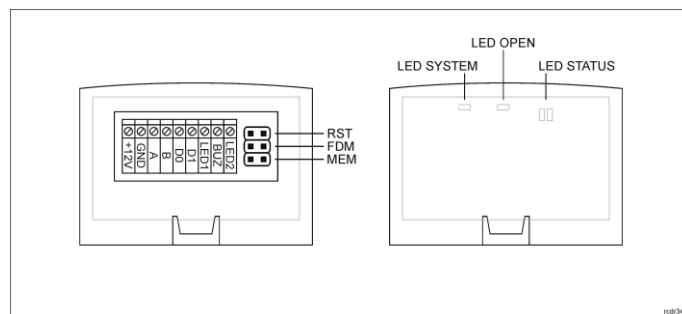

Fig. 3 MCI-5 interface
2. Remove jumper from MEM contacts (fig. 3) and restart the device (short RST contacts for a moment or switch power supply off and on).
2. Place jumper on FDM contacts (fig. 3).